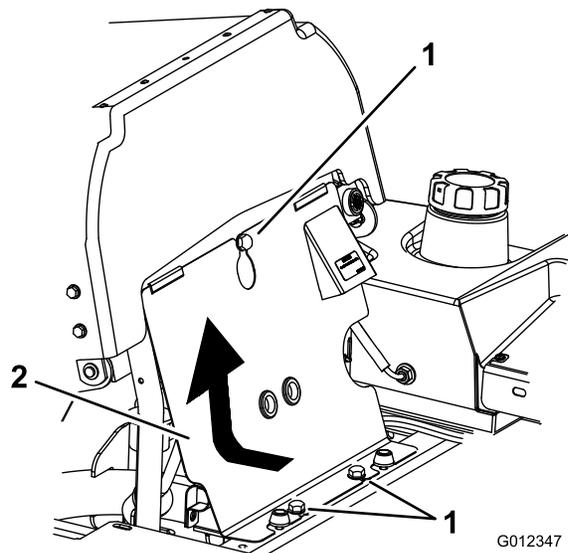

Figure 66
3. Tilt the seat forward, loosen the bolts and remove the front engine panel (Figure 66).